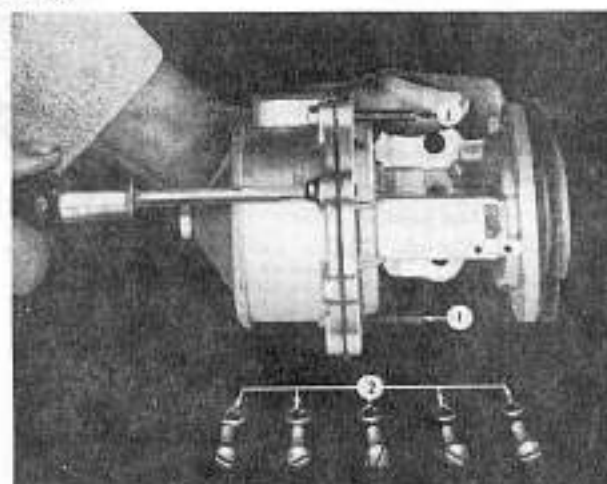

Fig. 390
Remove only two cover screws from opposite sides of the vacuum section cover and substitute for them two No. 10 — 32 x 1/2-inch fillister head screws (1, Fig. 390). Turn the two long screws all the way down and then remove the rest of the regular cover screws (2). Alternately back off the two long screws, a few turns at a time, (tap the cover with a screwdriver handle if the flanges stick together) until the force of the heavy vacuum diaphragm spring is no longer effective. Remove the two long screws, the cover assembly, diaphragm spring and spring retainer. To remove the diaphragms only, it is not necessary to remove links. The diaphragms may be unhooked from the links by tipping the end of the pull rod away from the mounting flange.